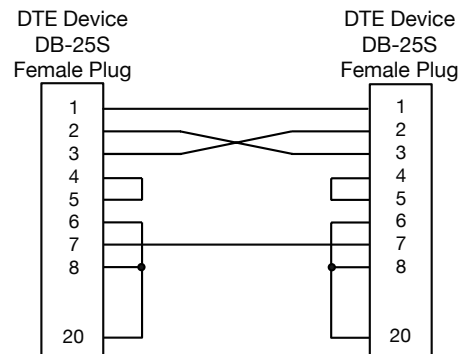

Figure 5 RS-232 Null-Modem Cable with Jumpers
If you are making your own cable, you can take advantage of the fact that most RS-232 devices only use Transmit Data, Receive Data and Ground. The remaining handshake lines can be jumpered back as shown in Figure 5 or ignored if they are not used by your serial devices. Select plug types to mate with your serial devices.
2. Needed control lines - Some devices need signal inputs on their control lines before they can send or receive while other devices have internal pullup resistors and can function with open inputs. If in doubt, add jumpers from a known 'on' signal such as the device's DTR or DSR output signal to the open input signal. For a 25 pin connector jumper pins 4 to 5 and pin 20 to pins 6 and 8 as shown in Figure 5.